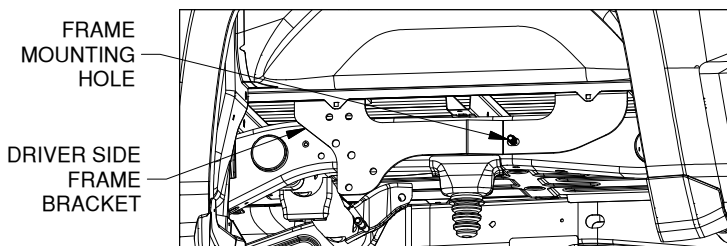
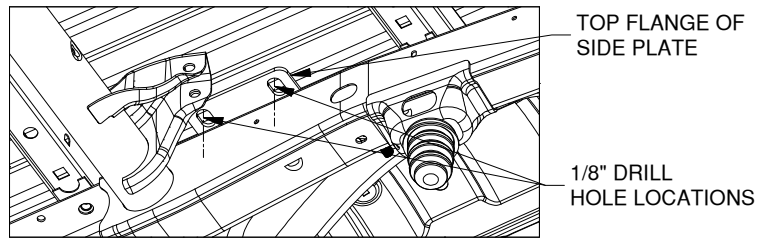

Figure C4: View looking into driver side wheel well.
Figure C5: View under bed looking up at drilled area and side plate.
3. **Check hole locations.** Using the side plates, align each bracket to the side of the frame where the side plates will be installed, see Figure C4. Check that the 1/8" holes are centered within the slots in the side plates, see Figure C5. If the 1/8" drilled holes are not centered re-drill the 1/8" holes until the side plates and the drilled holes are aligned.